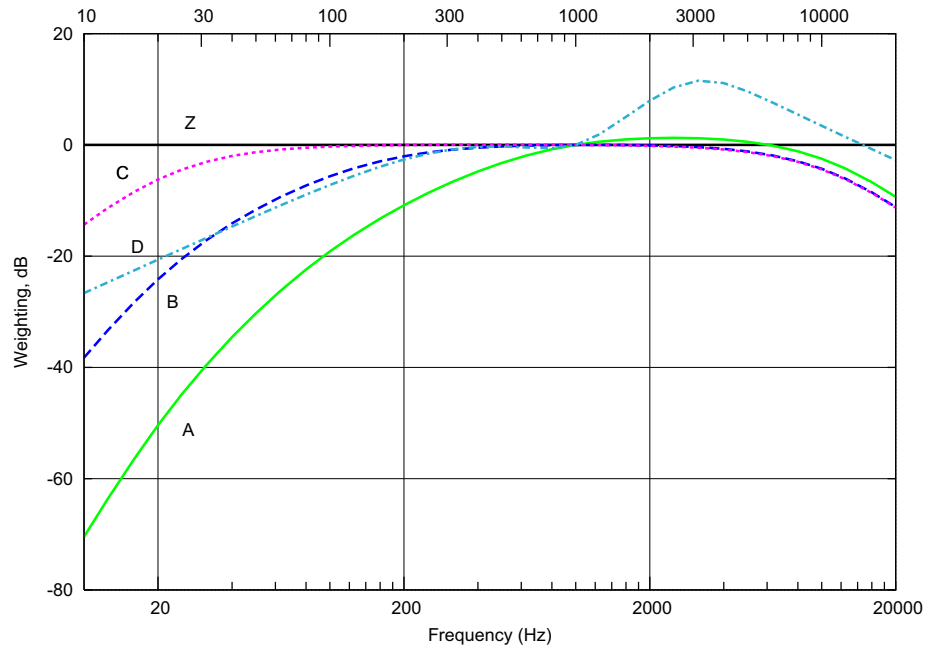

Figure 7.31 Relative response plots for different weighting filters.
7.3.1.5. Weighting Filters Weighting filters in acoustics are used to enhance or attenuate measured sound pressure levels based on the spectral content of sound to closely simulate the perceived loudness by human hearing. The sound pressure levels at frequencies at which human ear is less sensitive are weighted less than those at which human ear is more sensitive. Figure 7.31 plots the relative response functions for the following filters: **Z-weighting**, **A-weighting**, **B-weighting**, **C-weighting**, and **D-weighting**. See Table 7.5 ([1]).
Z (Zero) Filter Use this filter to apply zero weight. The measured value is not modified when this filter is used. Figure 7.31.
A Filter Use this filter to attenuate sound at very high and very low frequencies. This filter enhances sound pressure levels in the frequency range between 1kHz to 6kHz, where the human ear is most sensitive. A-weighting is the most commonly used filter. Figure 7.31.
B Filter Use this filter to assess loud noise. Figure 7.31.
C Filter Use this filter to assess loud noise. Figure 7.31.
D Filter This filter is used to assess loud noises in the aircraft industry. Figure 7.31.